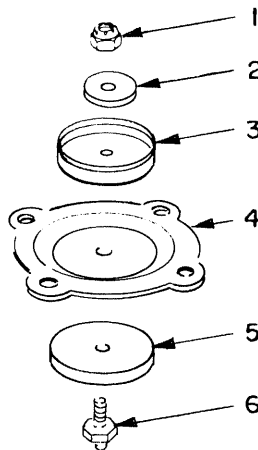

Figure 2.
(4) Assemble together parts (1 through 6, Figure 2) of this directive and tighten nut (1) to a torque value of 5-7 inch-pounds. Retorque to original value after 20 minutes. Retorque only.
(5) Reassemble the Air Bleed Nozzle Assembly as outlined in the affected publication except discard the spring (25) and valve assembly (24) and install the parts assembled in the preceding step (4) in place of diaphragm assembly (13). Install spring P/N 2541937 in place of P/N 367649.
(6) Functionally test the Air Bleed Nozzle Assembly as outlined in the affected publication.